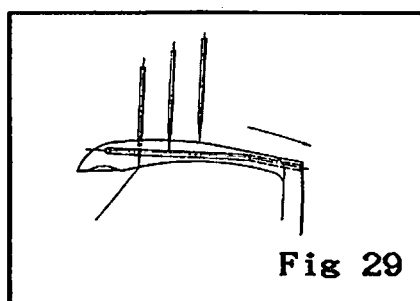

Fig 29
2. For the 3-needle machine, the end of the left needle is vertical to the lower edge of the Looper. (Fig. 29)